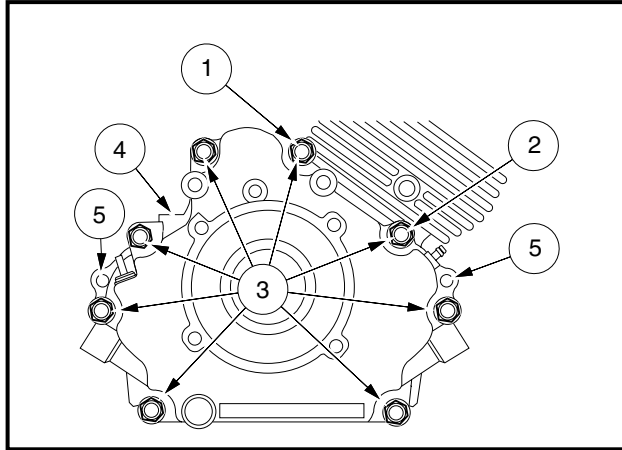

Figure 13-44 Crankcase Cover
2. Remove nuts and clamps at two-ended bolts (1 and 2) (**Figure 13-44, Page 13-24**).
3. Remove eight bolts (3) and remove the crankcase cover (4) (**Figure 13-44, Page 13-24**). See following **NOTE**.
**NOTE:** If the crankcase cover sticks, tap lightly with a plastic mallet on alternate sides near the dowel pins (5) (**Figure 13-44, Page 13-24**).